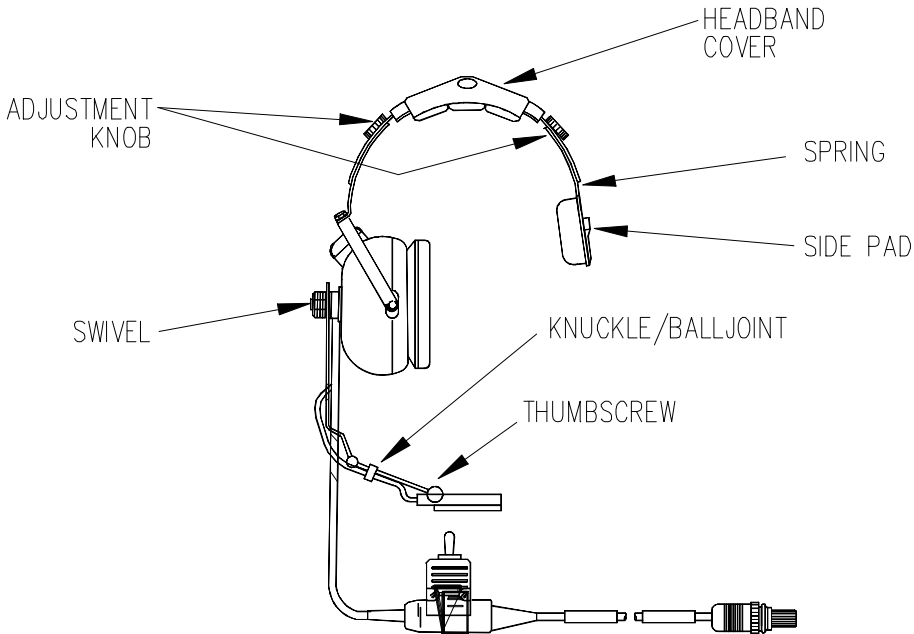

Figure 2-24. Wearing the CCH Headset
a. Spread the earcup and side pad and place the headset onto the head with the overhead band comfortably positioned. See figure 2-24.